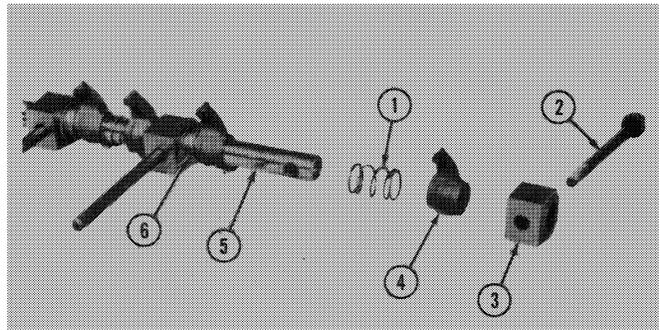

Figure 11
1. Remove the cylinder head bolts which pass through the rocker shaft supports and slide the rocker shaft supports and slide the rocker shaft components from the shaft, Figure 11.